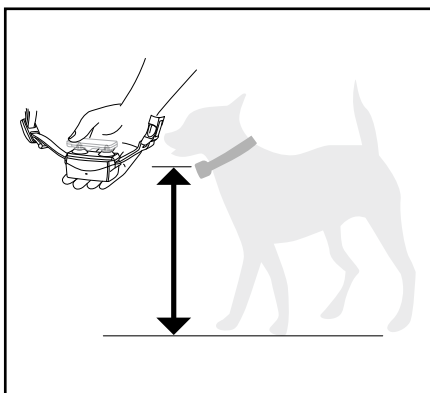

figure 14
- Slowly bring the Receiver Collar near the Boundary Wire at your pet's neck level with probes facing up (fig 14). If the system is working correctly you will hear a Warning Tone. Continue toward the Boundary Wire until you see the Test Light flash (fig. 15). If you do not hear the Warning Tone or see the flash you should review the previous directions.